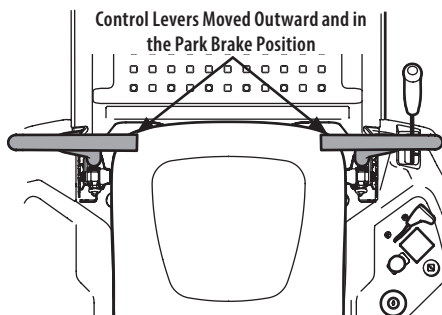

Figure 20
- Operator should be sitting in the tractor seat with the lapbar drive control levers fully out and in the park brake position (Figure 20). Refer to Practice Operation (initial use) for further instructions.